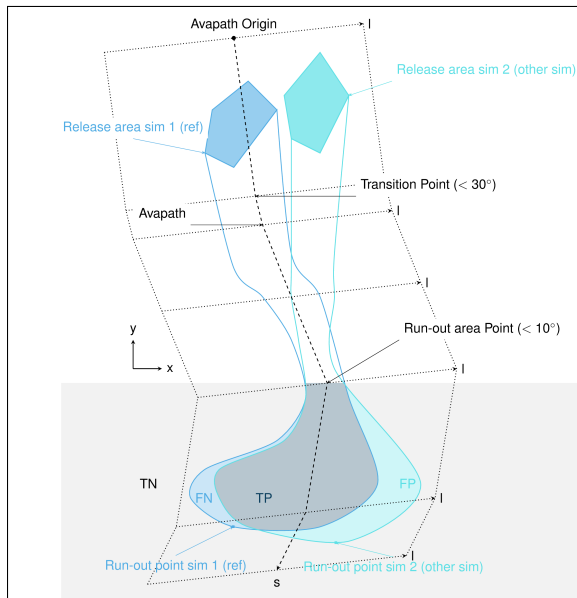
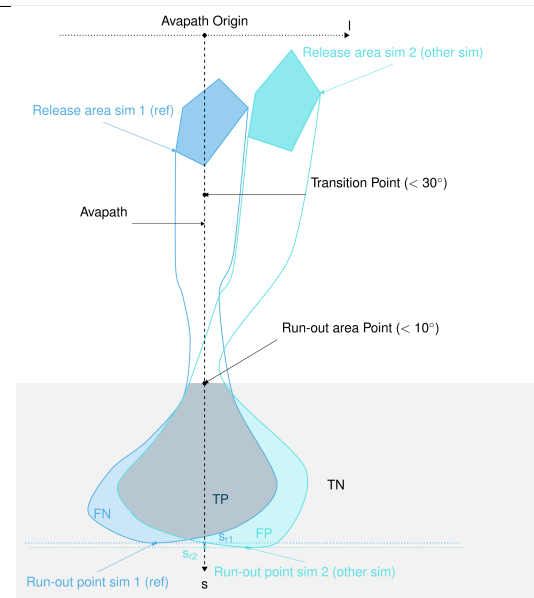
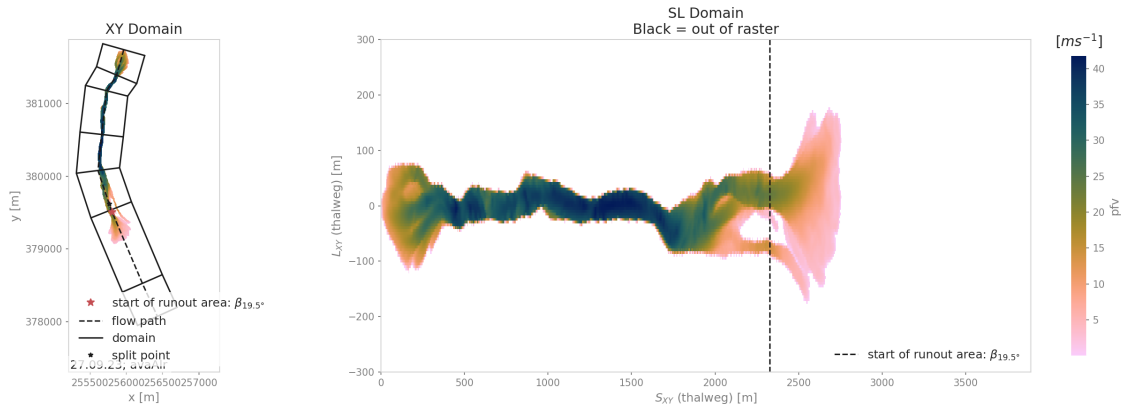

Fig. 5.13: In the real coordinate system  $(x,y)$
Fig. 5.14: In the new coordinate system  $(s,l)$
Fig. 5.15: Alr avalanche coordinate transformation and peak pressure field reprojection.
**ana3AIMEC** (Automated Indicator based Model Evaluation and Comparison, [Fis13]) is a post-processing module to analyze and compare results from avalanche simulations. For this purpose, avalanche simulation results are transformed into an avalanche *thalweg* following coordinate system (see Fig. 5.13, Fig. 5.14, Fig. 5.15), which enables the comparison of different simulations (for example varying parameter sets, or performed with different models) of the same avalanche catchment, in a standardized way.
There is the option to define a runout area for the analysis, which is based on the slope angle of the avalanche thalweg. This can be defined in the Aimec configuration by setting the *defineRunoutArea* flag to True. The start of runout area is then determined by finding the first point on the thalweg profile where the slope angle falls below the *startOfRunoutAreaAngle* value and all points upslope of the a additionally provided split point are ignored (see Fig. 5.15). This functionality requires an additional input:
- TP (true positive) zone: green zone on Fig. 5.14 , sim1 = True sim2 = True
- FP (false positive) zone: blue zone on Fig. 5.14 , sim1 = False sim2 = True
- FN (false negative) zone: red zone on Fig. 5.14 , sim1 = True sim2 = False
- TN (true negative) zone: gray zone on Fig. 5.14 , sim1 = False sim2 = False
- “DomainTransformation” shows the computational domain (xy) on the left and new thalweg-following domain (sl) on the right (Fig. 5.15)